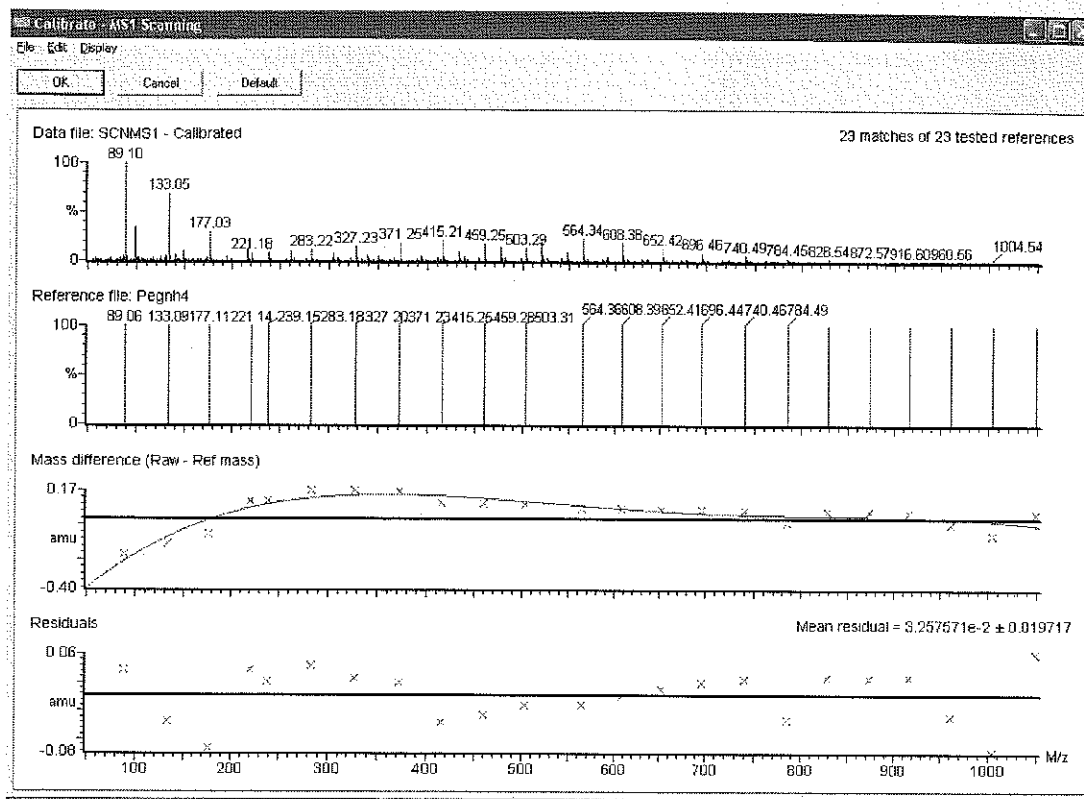

Figure 6-11 Calibration Report
2. Click OK to repeat the calibration procedure for that particular file and display a calibration report (see Figure 6-11).
1. If the displayed calibration is acceptable, click OK in the Calibration Report (see Figure 6-11). The Calibration Options window (see Figure 6-3) is reopened and updated to display the current calibration.